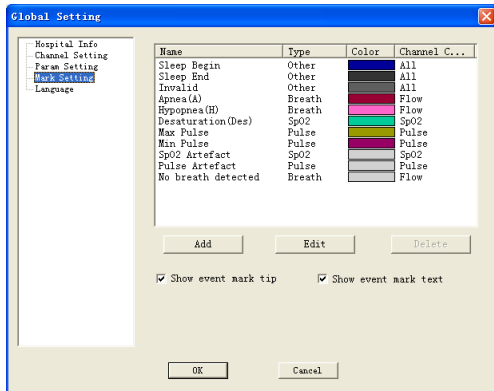

Figure 5.28
- 4) Marks can be added, edited and deleted in “Mark Setting” interface, as shown in Figure 5.28.